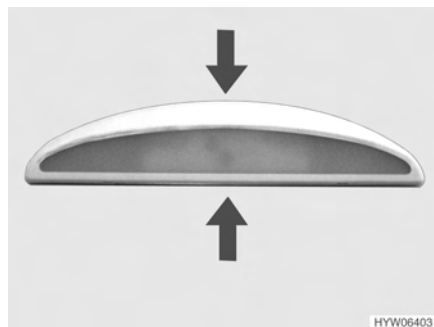

Fig. 108 Awning light
- Press the housing gently together (Fig. 108) and pull it out towards you.